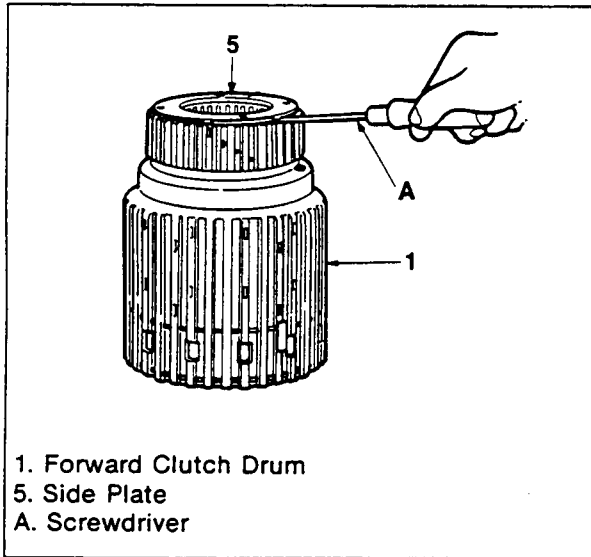

Figure 190. Side Plate Removal
1. Remove the side plate lugs off with a flat end screwdriver and remove the plate (figure 190).